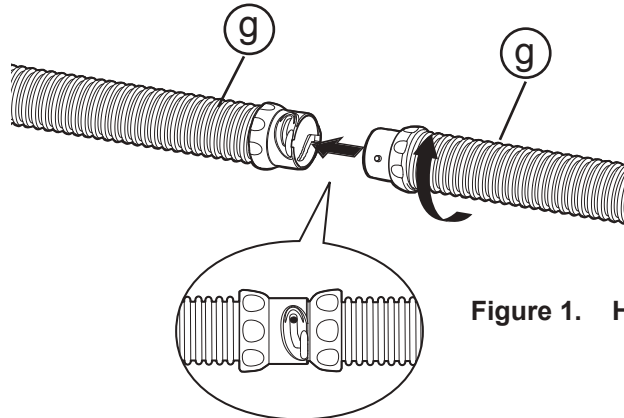

Figure 1. Hose Sections
Congratulations on the purchase of your new cleaner. Before installing your cleaner, please check the box to ensure all parts are included (Figure 1). If any components are missing, contact:
Push and twist the connector on each hose section (g) until they lock into position with clicking sound (Figure 1). Hose cuffs have three (3) connection positions. Any of the three (3) positions are sufficient for an air-tight seal.